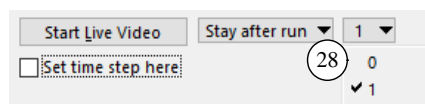
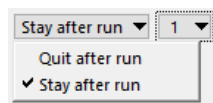

Figure 21. Pull-down control for selecting the number of live animators.
Figure 22. Controls when there is one live animator.
- 28 Pull-down control for selecting the number of live animators. If you want to disable live animation, then set the number to zero (Figure 18). If the selected number is greater than one, then the animators must be activated externally with display preferences for each. If the selected number is one, then two more controls appear to control the starting and stopping of the animator (Figure 21, Figure 22).